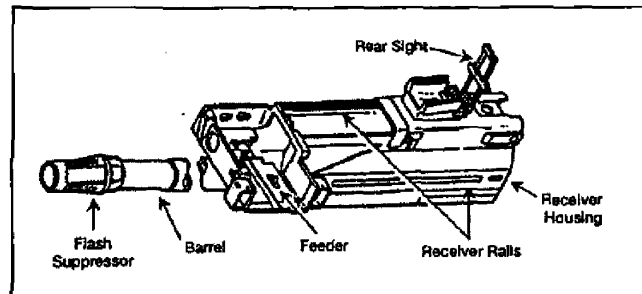

Figure 071-030-0001-15. Receiver assembly
- (1) Apply solvent to a rag or brush. Wipe or brush dirt away from all parts, especially the interior of the receiver housing, receiver rails, and feeder.
- (2) Swab out the bore and chamber, using a bore brush and RBC.
- (3) Wipe all parts dry.
- b. Clean the receiver sear assembly (figure 071-030-0001-14).
- (1) Use only cleaning solvent on a rag or brush.
- (2) Wipe or brush away dirt.
- (3) Wipe dry.